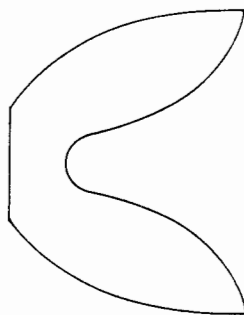
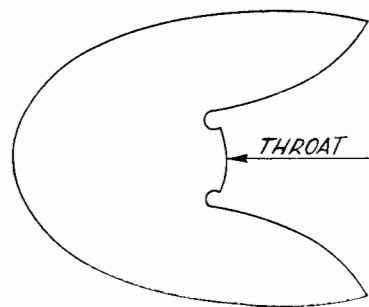
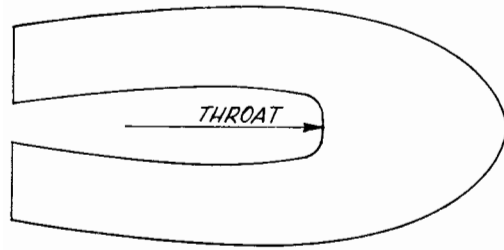
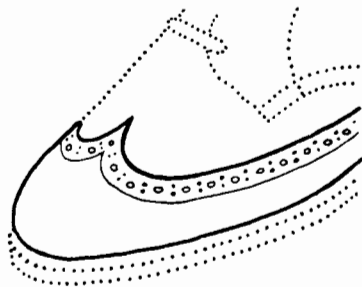

Fig. 8. Cut-off vamp.
Fig. 9. Full-toe vamp.
Fig. 10. Full-length vamp.
Fig. 12. Wing tip.
**Vamp.** Vamp is that part of a shoe from the throat (Fig. 9) down to the toe and down both sides to the soles. There are three principal types as follows: the common or cut-off (Fig. 8), the three-quarter for plain or double-tip shoes (Fig. 9), and the full length or seamless (Fig. 10).
**Toe Cap.** A toe cap or toe tip (Figs. 12 to 15) is at the extreme or toe end of the shoe. Toe caps are most often stitched to the cut-off end of the cut-off vamp (Fig. 8). Where there may be extra toe wear, they are stitched onto the three-quarter and full-length vamps. Tips are more often than not ornamented with fancy stitched or perforated designs.